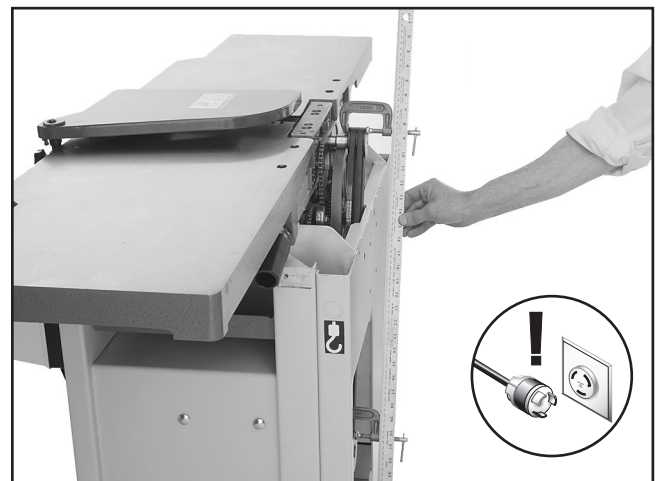

Figure 68. Checking belt alignment.
Proper pulley alignment (see **Figure 68**) prevents premature belt wear. The pulleys are properly aligned when they are parallel and in the same plane as each other.
2. Place a 2" C-clamp on each pulley so the adjustment shaft faces out, place a straightedge on the clamps, as shown in **Figure 68**, and visually check pulley alignment.